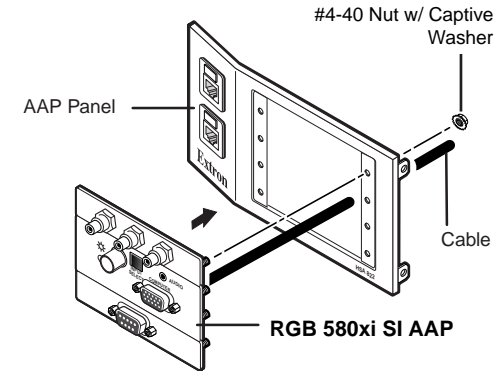

Figure 3-2 — Mounting an AAP device
4. Remove the AAP(s) that you no longer want from the AAP panel by unscrewing the nuts on the rear of the AAP panel that secure the AAPs in place (figure 3-2).